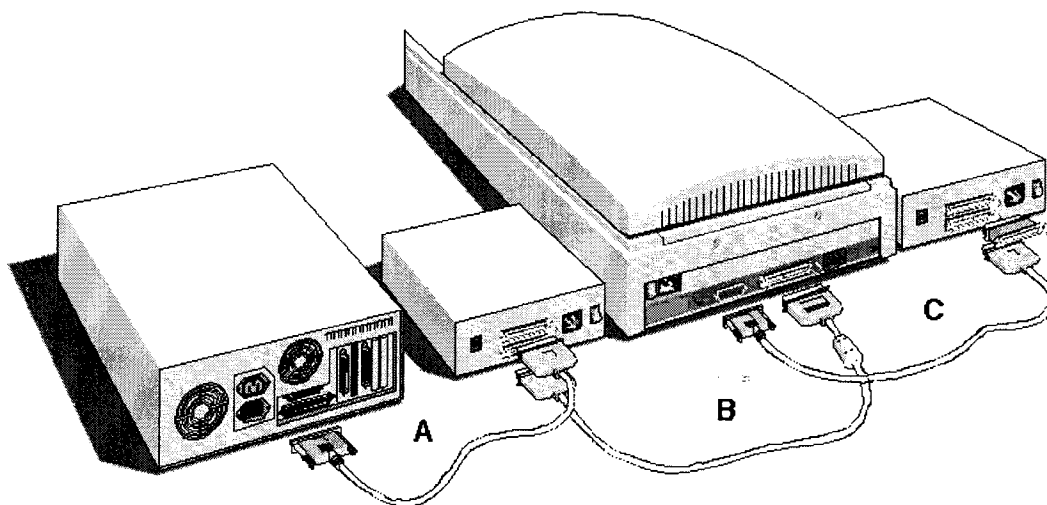

Fig. 3.6
2. Connect the 50-pin end of the SCSI cable (cable B) already connected to another device to the 50 pin SCSI port of the densitometer (Figure 3.6).